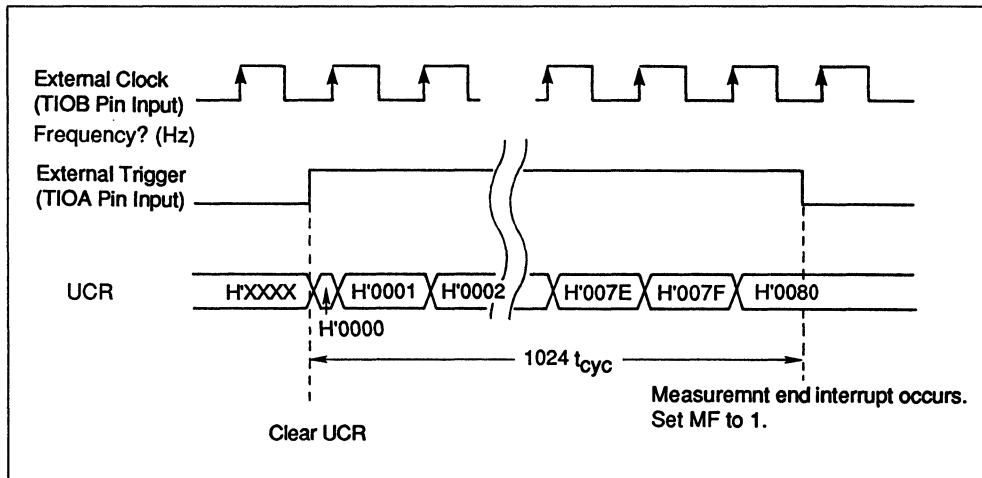

Figure 9-13. Frequency Measurement Timing
**Function:** Timer measures an external clock (TIOB input) frequency (Figure 9-13).